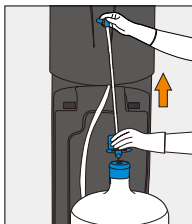

Figure 39
18. Remove bottle adaptor assembly from the empty bottle (Figure 39), and set aside. Carefully un-package the Bottle Adaptor assembly, avoiding touching the tube